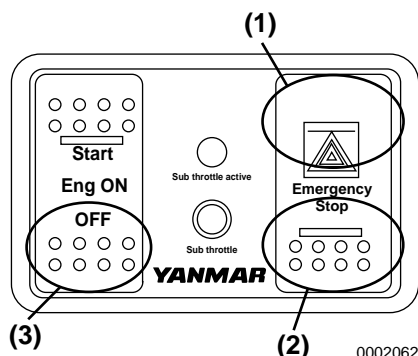

Figure 6
3. Push OFF (bottom half) of Eng ON switch (**Figure 6, (3)**). The engine shuts down within 2 to 7 seconds normally. The regular engine shutdown takes time because the controller is adjusted in the fuel injection timing to the most suitable position for the next start.
Push the upper part of the Emergency Stop switch (**Figure 6, (1)**) on the right of the panel and the engine shuts down immediately, without the time lag of regular engine shutdown. After shutdown, push the bottom part of the emergency stop switch (**Figure 6, (2)**) to be returned to the former position. **NOTICE: Use this switch only in an emergency. Under normal circumstances, use the OFF, Eng ON, Start switch (Figure 6, (3)) to stop the engine.**